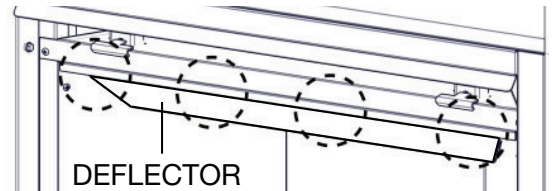

Fig. 1
- C. To ease assembly, remove the 4 hex head screws, securing the deflector from inside the top front of the firebox (**Fig. 1**).